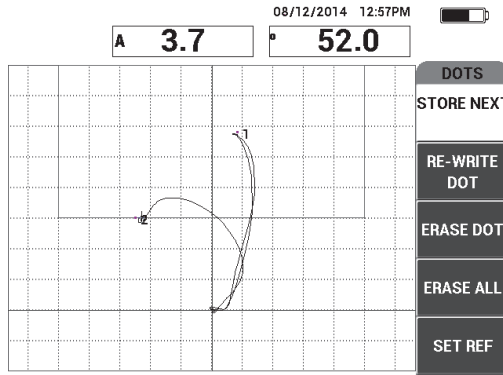

Figure 6-49 The second dot recorded
7. Slowly glide the probe over the second disbond, and then press **STORE NEXT** (A key) to record the second dot (see Figure 6-49 on page 165).